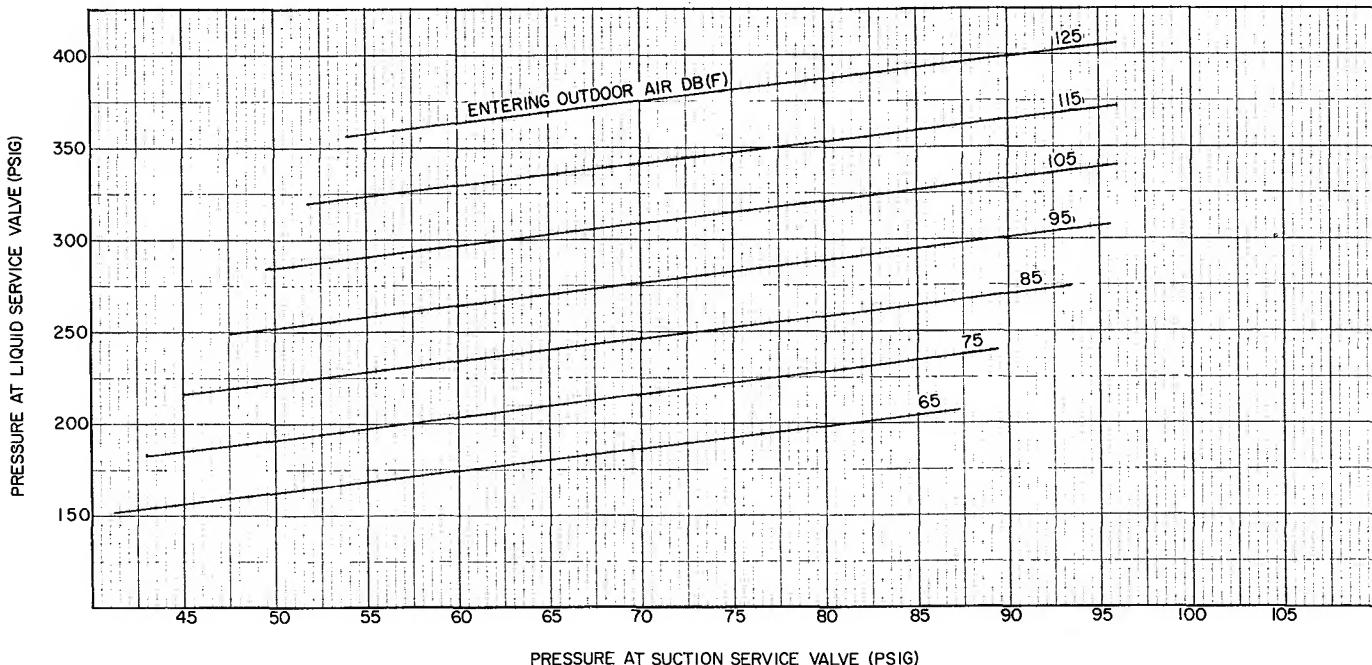

Fig. 6 – 38GS,CC Charging Chart (TXV Systems)
**Charging Chart Method** — For thermal expansion valve systems, use Charging Chart, Fig. 6 or 7. See Carrier Standard Service Techniques Manual, Chapter 1, for procedure. For capillary tube or AccuRater™ systems, use Charging Chart, Fig. 8 or 9 and the following procedure: